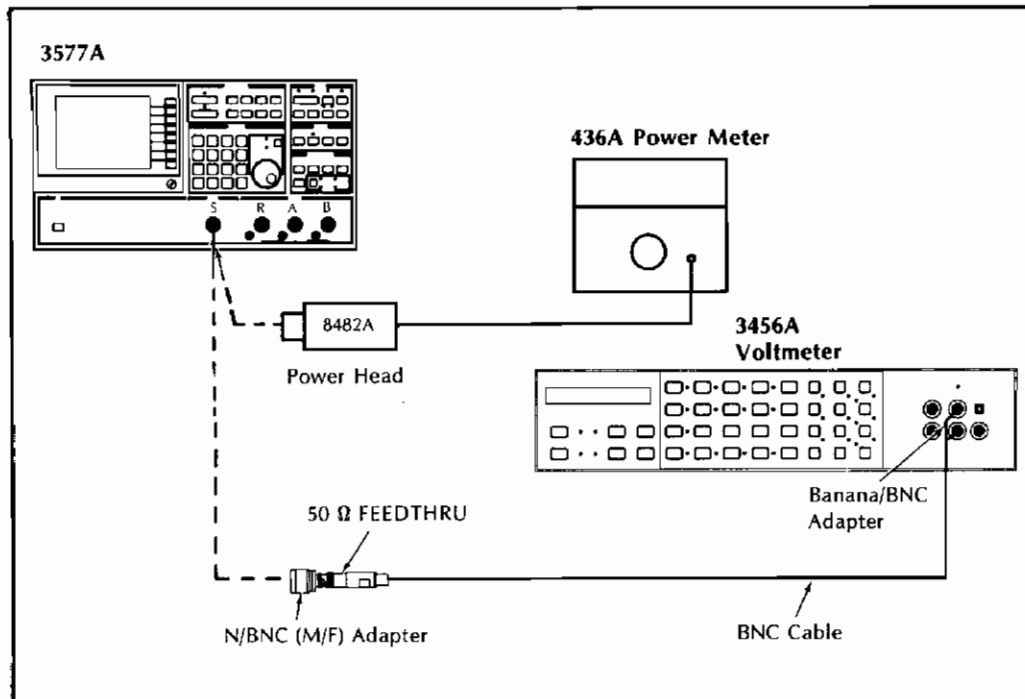

Figure 3-19 Alternate Source Flatness and Absolute Accuracy Test Set-Up
- c. Connect the voltmeter to the HP 3577A source output using a BNC cable, feed-through termination, and N male to BNC female adapter as shown in Figure 3-19.
- k. Connect the 8482A power head to the 3577A source as shown in Figure 3-19.